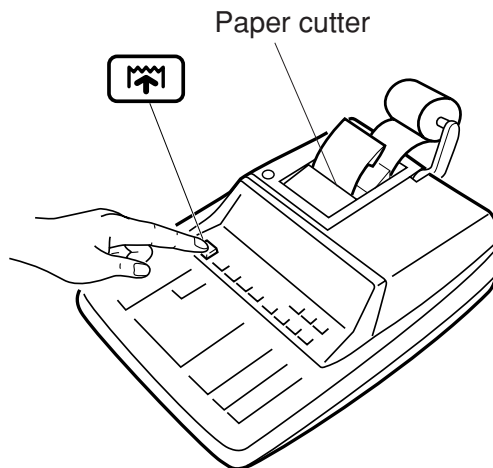

Fig. 5
5. Press the paper feed key and feed the paper under the edge of the paper cutter. (Fig. 5)